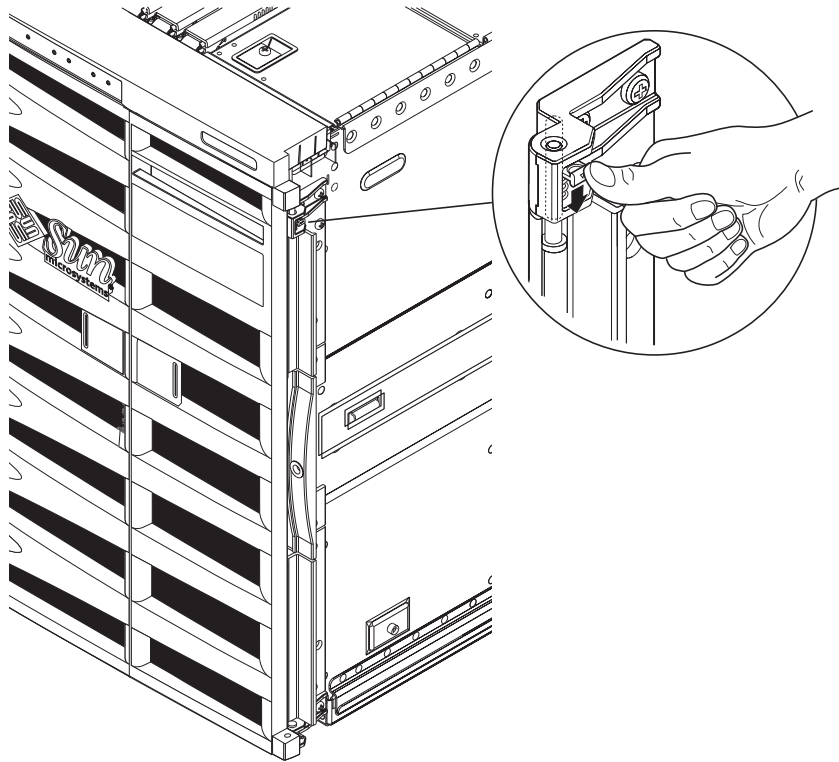

FIGURE 1-6 Releasing the Door Hinge Mechanism
1. **Remove the front bezel doors** (FIGURE 1-6).